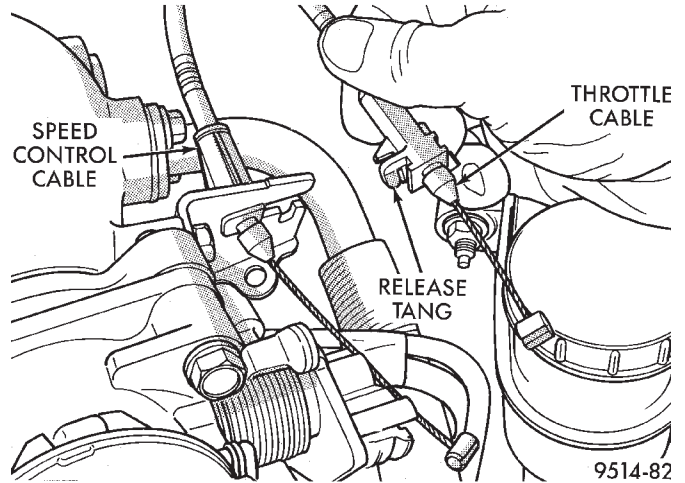

Fig. 49 Throttle Cable Attachment
(2) Push release tang toward dash panel on throttle cable and slide cable out of bracket (Fig. 49).
(3) From inside the vehicle, reach behind the top of the pedal shaft and push the retainer toward rear of vehicle. It may be necessary to squeeze retainer ears together on dash side of pedal shaft.
(4) Lift cable up through slot in top of pedal shaft.
(5) From the engine compartment, pull the throttle cable and grommet out of the dash panel.